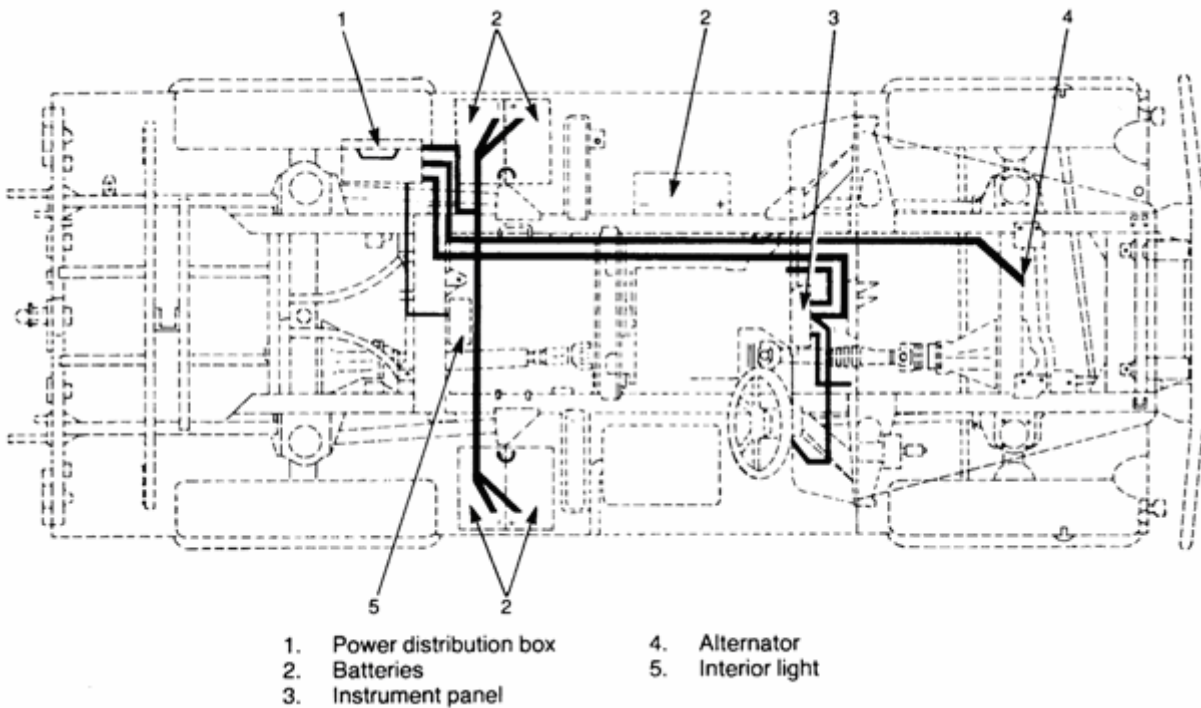

Figure 4 Rear Wiring Harness (FFR)
- e. The layout of the rear wiring harness for a vehicle fitted for radio is shown in Figure 4.